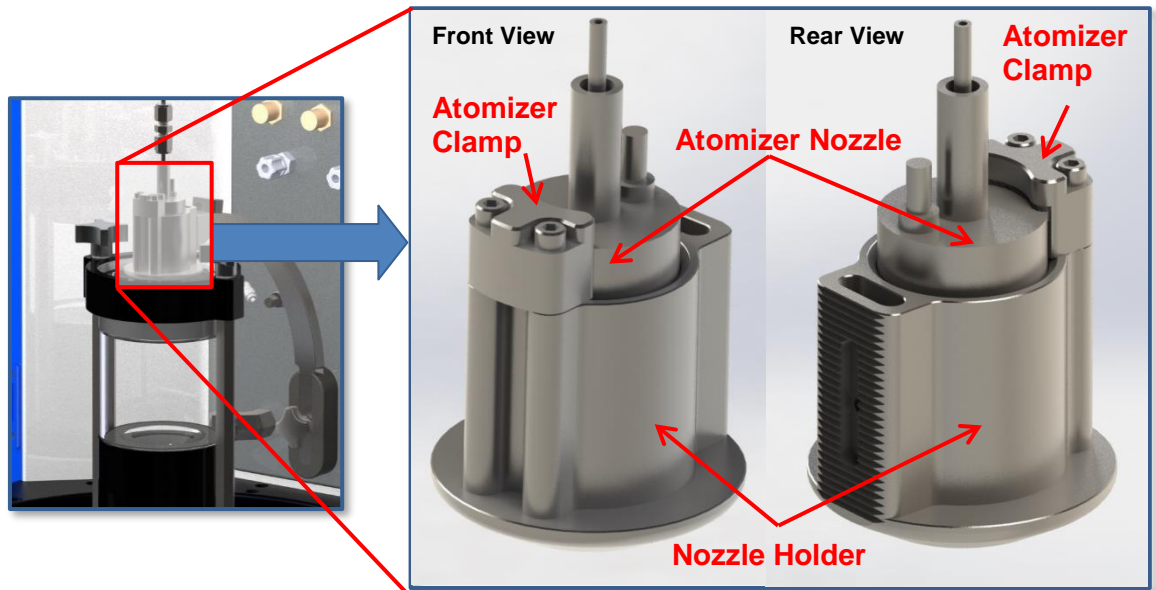

Figure 5-4: Ultrasonic Atomizer Nozzle and Atomizer Holder
5.1.4 Figure 5-4 illustrates the Atomizer Nozzle and Atomizer Holder.